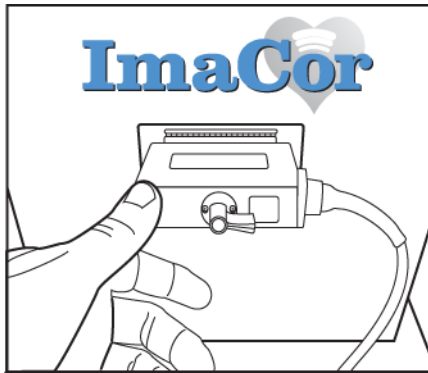

Fig. 4 Push the umbilical connector
- 2 Push the umbilical cable connector into place (Figure 4). The umbilical cable connector is large; you will need one hand to hold it and the other to turn the locking lever.